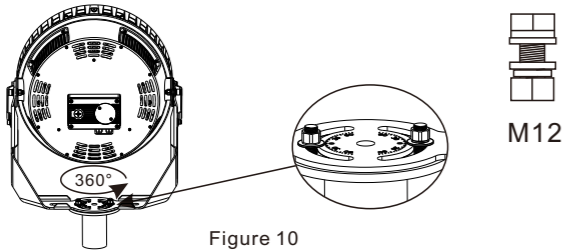

Figure 10
1. According to the need to adjust the lighting direction, can be 360 degrees rotation adjustment, tightened with screws when the adjustment is completed (Figure 10);